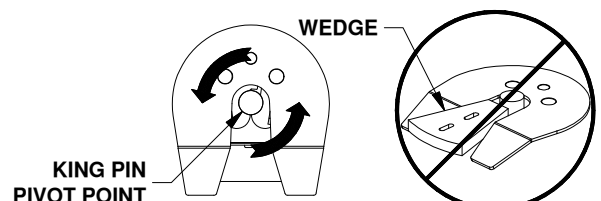

FIGURE F3;
**WARNING:** Do not use the Companion 5th wheel hitch with any device that changes the location of the king pin pivot point. The king pin on your trailer must rotate in the jaws of the Companion Coupler, see figure F3. Preventing the king pin from rotating within the jaws of the Companion Coupler with a wedge, see figure F4, or any other device, such as a Reese Sidewinder® or Reese Revolution®, could result in property damage, serious injury or death.